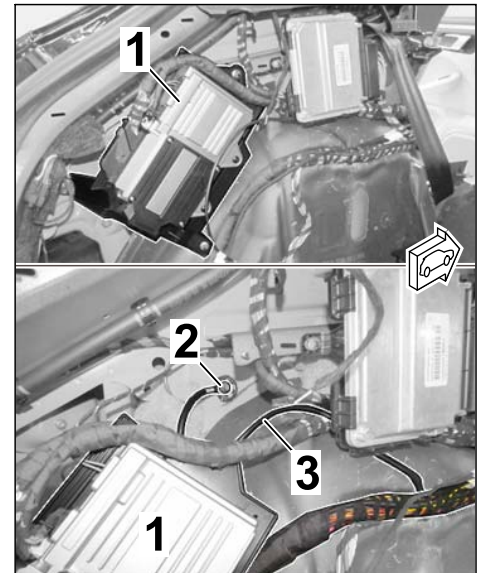

Figure 37
- 3.1.3 Fit cable ring eyelet A6 (ground) on ground pin MB 43 ( $\Rightarrow$  Figure 37)